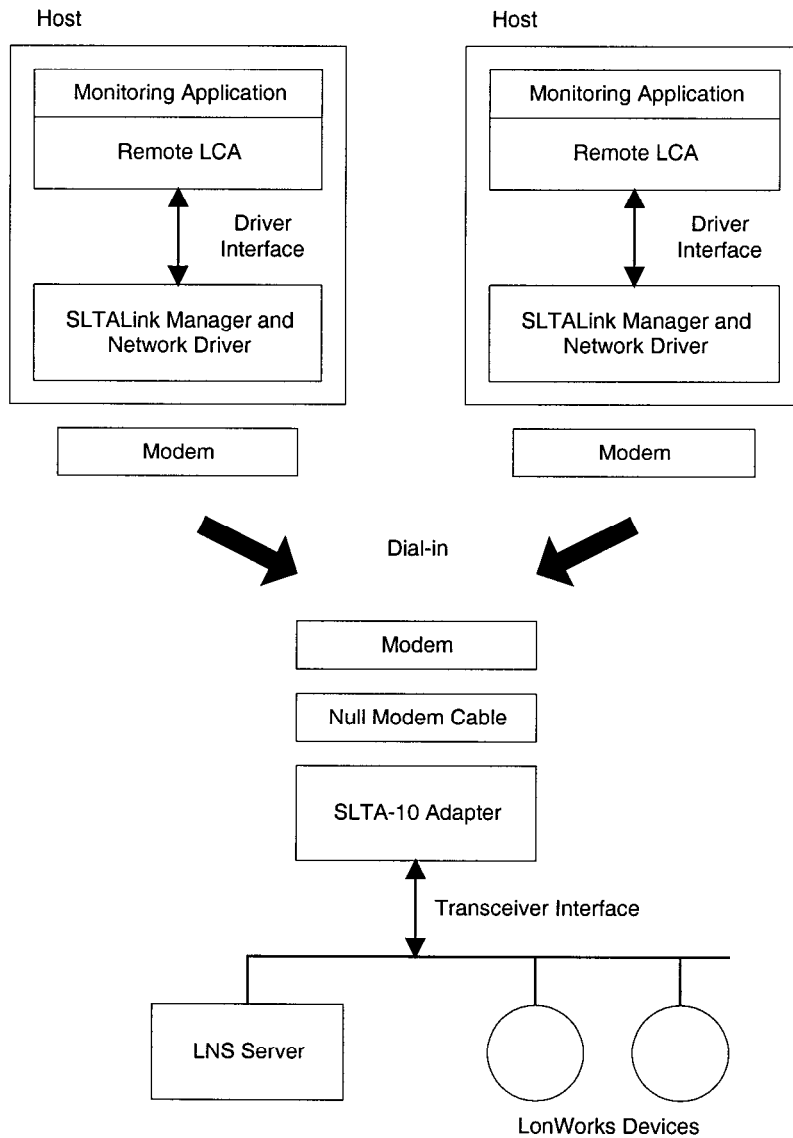

Figure 7.13 Shared SLTA-10 Adapter using Dial-in
- Several PCs can share one SLTA-10 Adapter as long as the calls are all initiated on the remote PC hosts (i.e., dial-in only) and each remote LNS application removes the bound connections to its host before terminating. See figure 7.13.